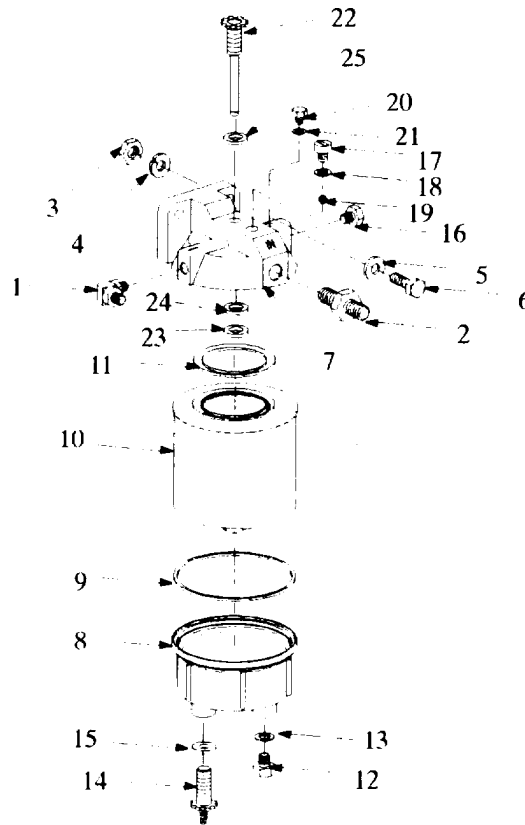

Figure 4-56.1. Water/Filter Separator Maintenance (Model 350 PAWN).
- a. Disconnect fuel lines from elbow (figure 4-56.1, 1) and fitting (2).
- b. Remove nuts (3), lockwashers (4), flat washers (5), bolts (6) and filter/separator from 350 GPM Pumping Assembly.
- c. Remove elbow (1) and fitting (2) and from head (7).
- a. Remove base (8), gasket (9), filter (10) and packing (11).
- b. Remove plug (12), packing (13), valve (14) and packing (15).
- c. Remove plug (16).
- d. Remove plug (17), packing (18) and ball (19).
- e. Remove plug (20) and packing (21).